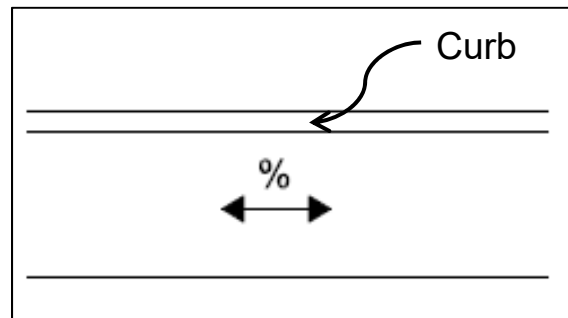

Figure 20 - Accessible Route Running Slope
- Grades (running slopes) equal the general grade established for the adjacent street or highway for access routes within the ROW and serving the ROW (see **Figure 20**). *PROWAG R302.5; TDOP Ped Standards*
- Grades (running slopes) are 5% maximum for access routes within the ROW but not serving the adjacent street or highway (see **Figure 20**). *PROWAG R302.5; TDOP Ped Standards*
- Grades (running slopes) do not exceed 5% for access routes outside the ROW (see **Figure 20**). *PROWAG R302.5*
- Grades (running slopes) follow the general grade established for the adjacent street or highway to the extent practical (see **Figure 20**). *2013 PROWAG Supplement, R302.5*